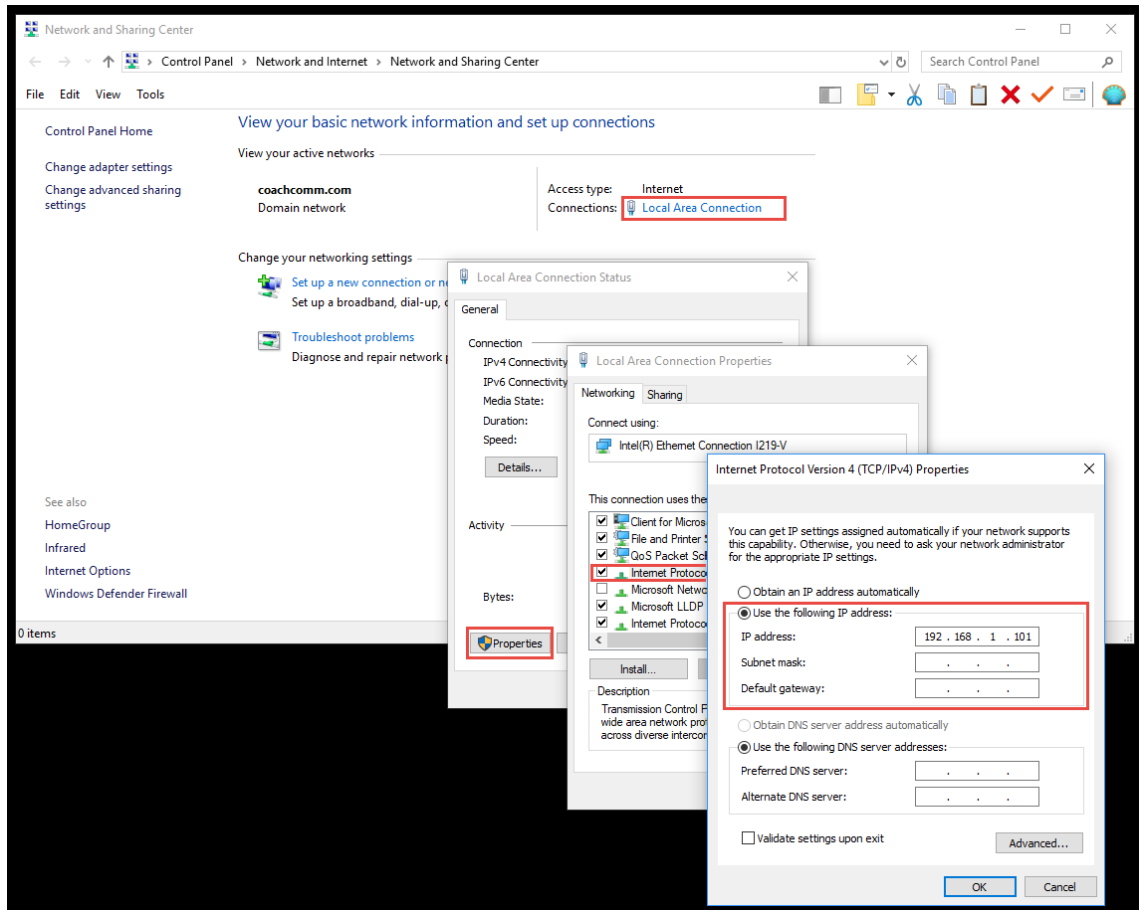

Figure 4 Example IP Address Settings Changes
- E. Select **Use the following IP address** and fill out the appropriate information, making sure that the first three sets of numbers are the same as your CU but that the last number is different. (See Figure 4 below.)